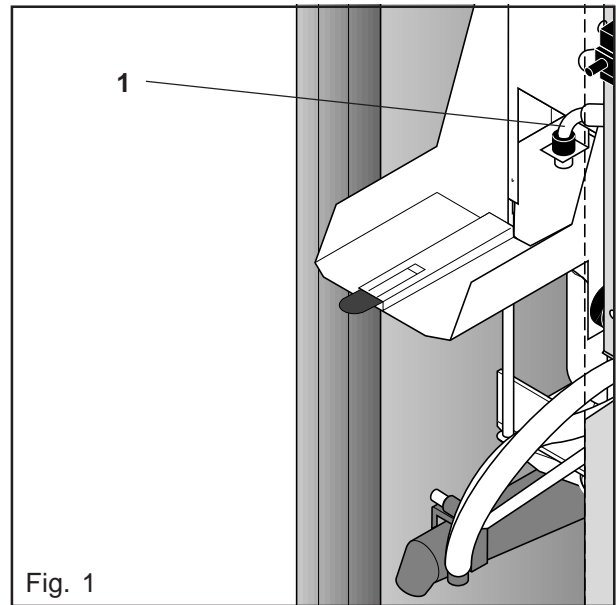

Fig. 1
Connect the hose to the water inlet elbow (1), and put the elbow into a container, so that the water does not run into the dispenser. (Fig. 1)
- Remove the four screws (1). (Fig. 1)
- Remove the product container console (2). (Fig. 1)
- Remove the three screws (3). (Fig. 1)
- Remove the brewer housing (4). (Fig. 1)